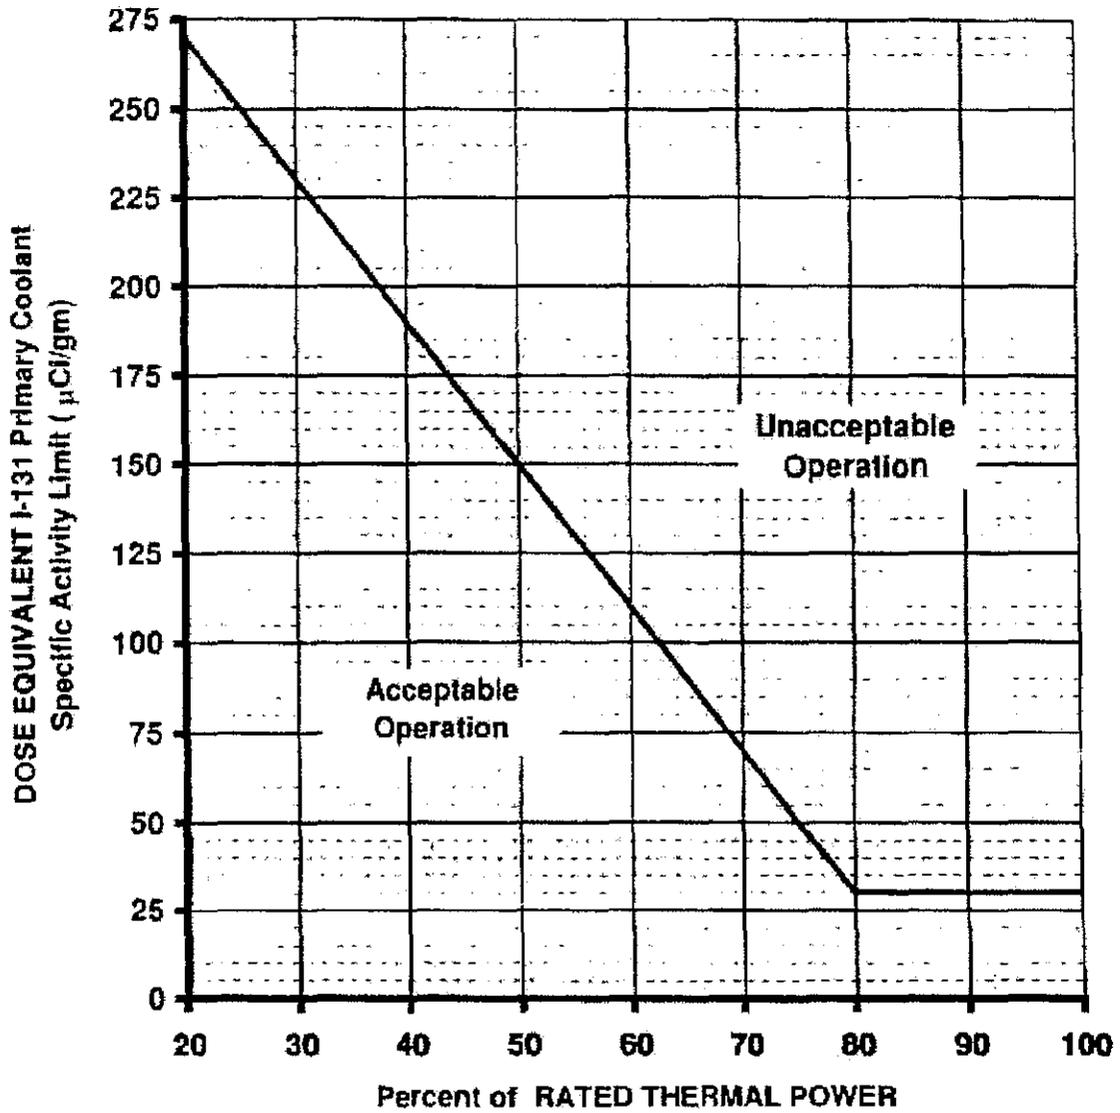

Figure 3.4.16-1
A.1 Verify DOSE EQUIVALENT I-131 within the acceptable region of Figure 3.4.16-1.	Once per 4 hours